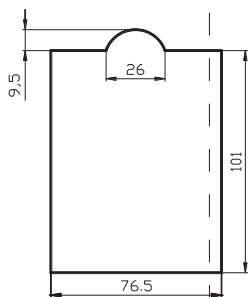
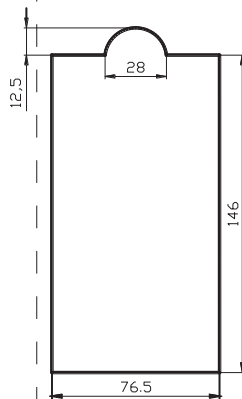

Fig.9-5 Hole dimension 1 of keypad.
Fig.9-6 Hole dimension 2 of keypad
- Two installation frame are below :Fig.9-5 .Fig.9-6.